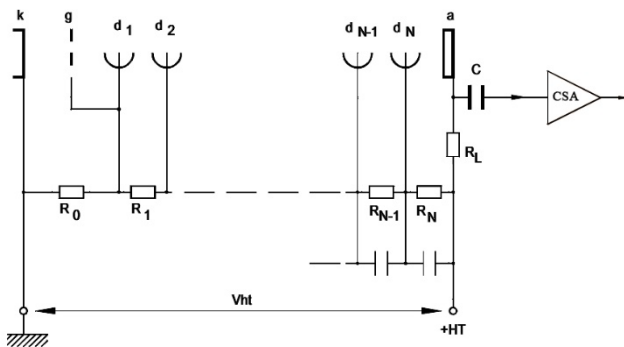

Fig. 4. u-CSA and PMT connection diagram with positive high-voltage supply.
(1) When using the PMT with a positive high-voltage supply, a high-voltage DC blocking capacitor is mandatory; see Fig. 4.